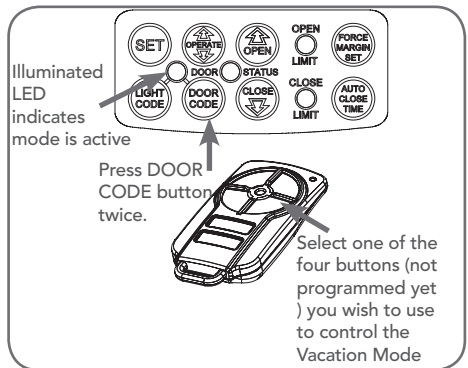

Fig. 8.2
- Briefly press the DOOR CODE button once, then press it again and hold (will beep two times on second press (**Fig. 8.2**).
- Press one of the four (4) buttons on the transmitter for two (2) seconds, pause for two (2) seconds, then press the same button again for two (2) seconds.
- Press and hold the transmitter button for six (6) seconds to set Vacation Mode. The door code LED will stay lit while Vacation Mode is active.